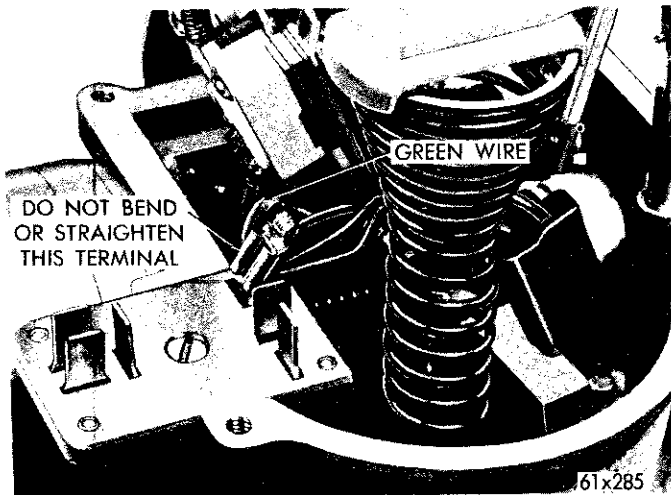

Fig. 12—Terminal Showing the Green Wire
unit. Remove the cover. Disconnect the green wire from the terminal block (Fig. 12).
(1) Remove the four screws attaching the cover and remove the cover. Be careful not to lose the gaskets in the cover groove.
(2) Disconnect the green motor wire from the terminal block (Fig. 12).
**NOTE: Do not straighten the terminal fitting, as it has an angle to prevent grounding on the housing cover (Fig. 12).**